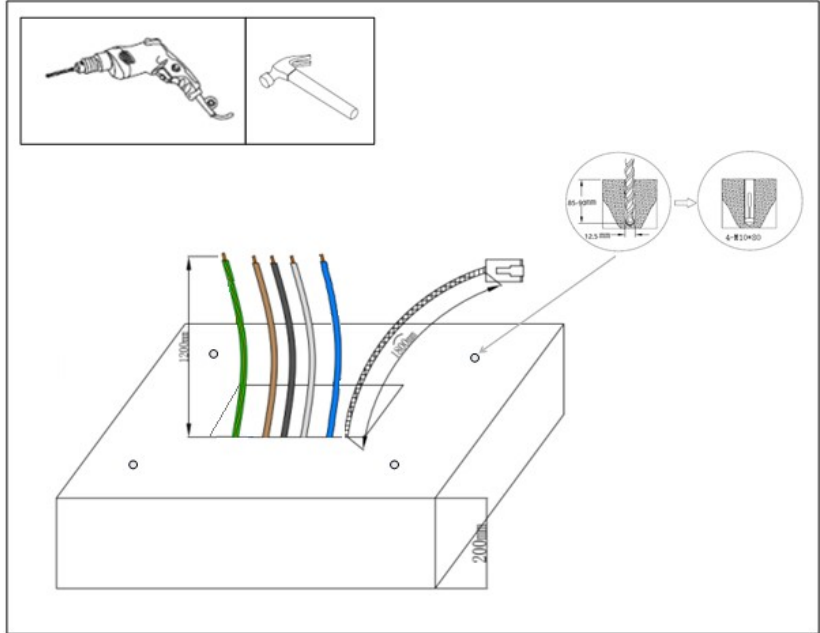

Figure 3.4.2.2-B Hole locations of the template
Step 2: Use the percussion drill to drill four holes on the ground, Install the M10*80 expansion screw as shown in *Figure 3.4.2.2-B*.